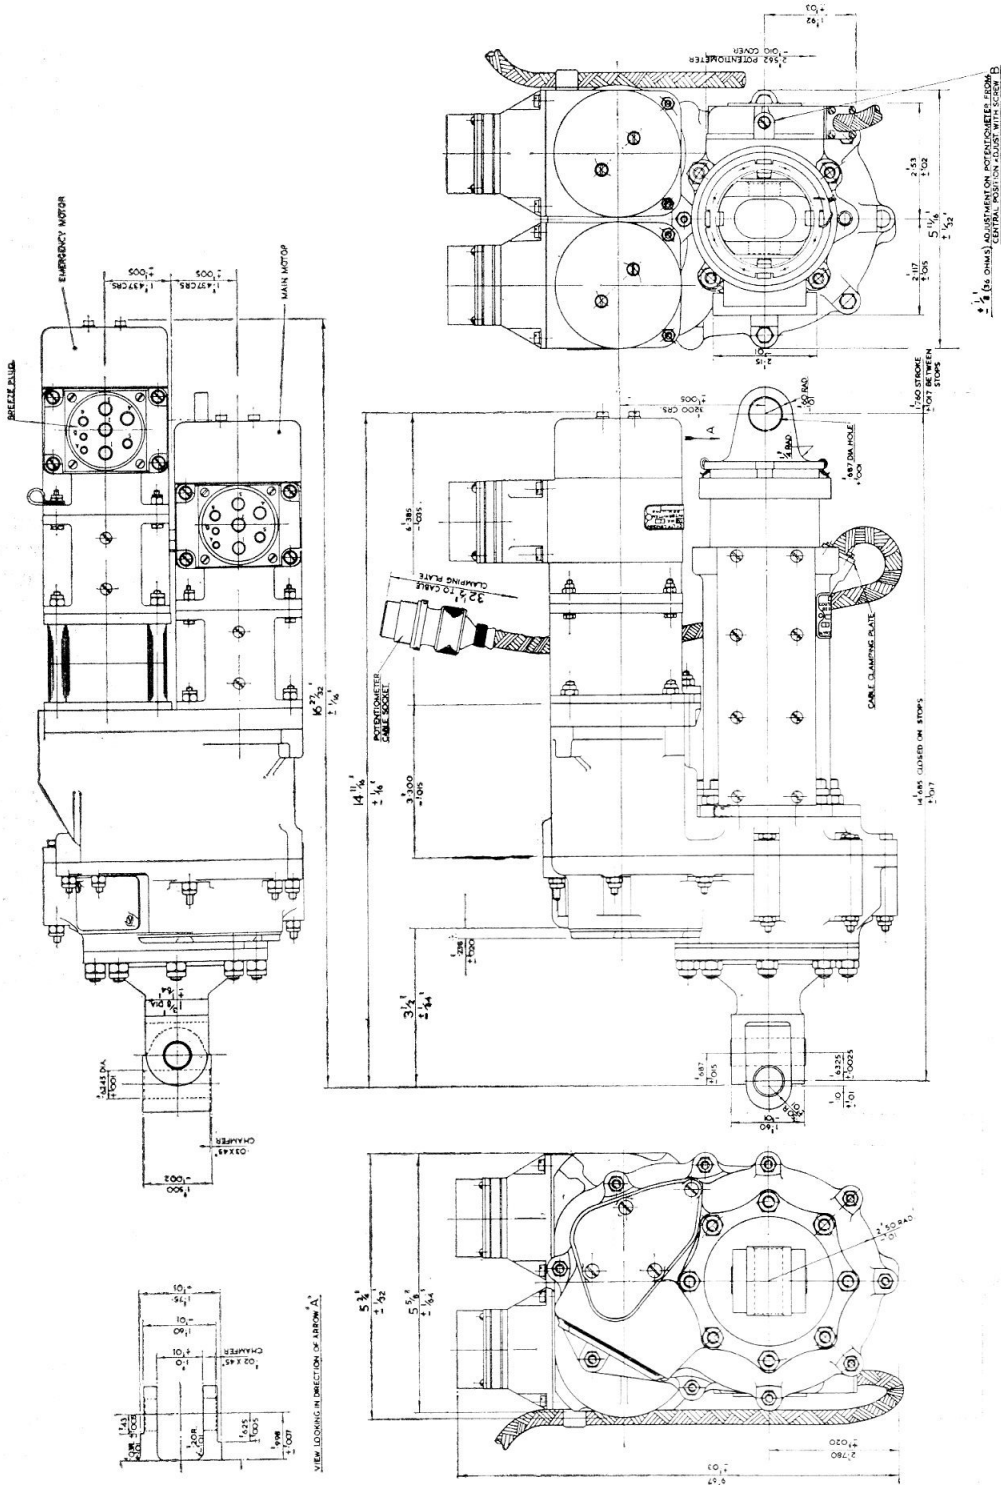

Fig. 5. Installation drawing
28. Mount the actuator on a suitable travel setting rig with the limit switches arranged so that they operate  $\frac{1}{4}$  in. from the fully extended and retracted positions, and connect to the test circuit as shown in fig. 5.